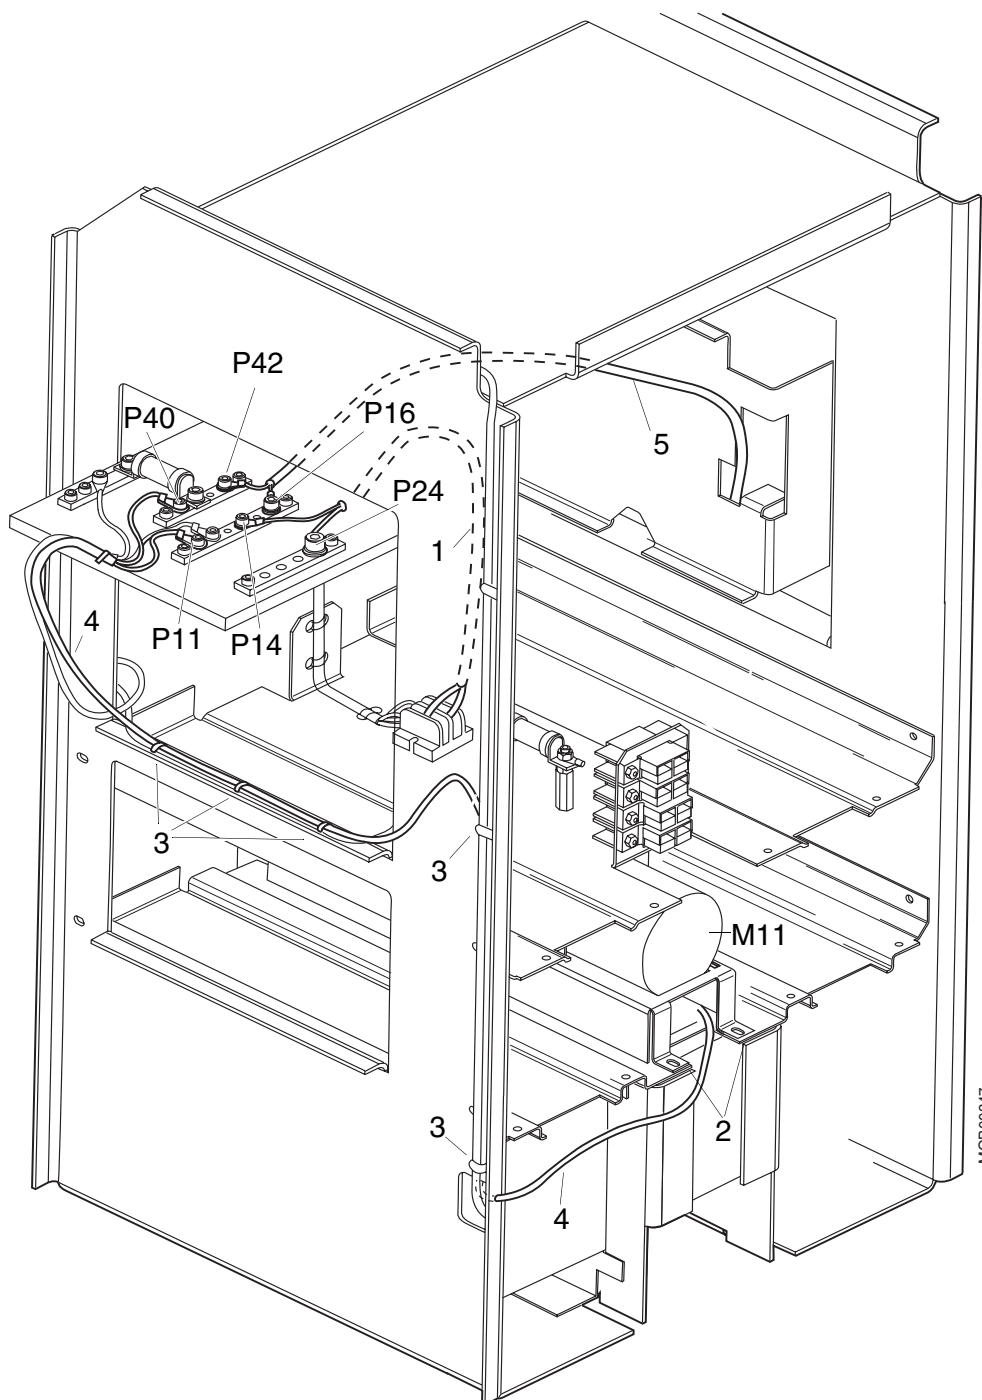

Fig. 4
2. Disconnect cable (1/Fig. 4) from P24 and P14 on the power conversion unit.
- Connect the cable (1/Fig. 4) to P14 and P24 on the power conversion unit.
- Insert the capacitor unit M11 and fasten it with screws (2/Fig. 4).
- Cut cable ties (3/Fig. 4). Connect the cable (4/Fig. 4) to P11 and P40 according to Fig. 4. Fasten with new cable ties.
- Disconnect cables K8 and K64 on the right-hand side and replace the inverter. Connect cable (5/Fig. 4) to P16 and P42 on the power conversion unit.